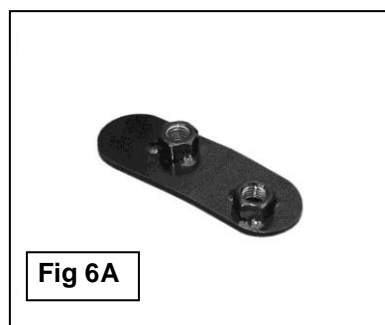

Fig 6A
- 4. Move along the floor panel to the center of the vehicle, (Figure 5). Select (1) 10mm Double Nut Plate, (Figure 6A). Insert the Nut Plate into the large hole in the floor panel reinforcement, (Figure 6B). Line up the threaded hole with the single small hole in the reinforcement, (Figure 7). NOTE: The Nut Plate is offset to line up with the offset holes in the floor panel reinforcement.